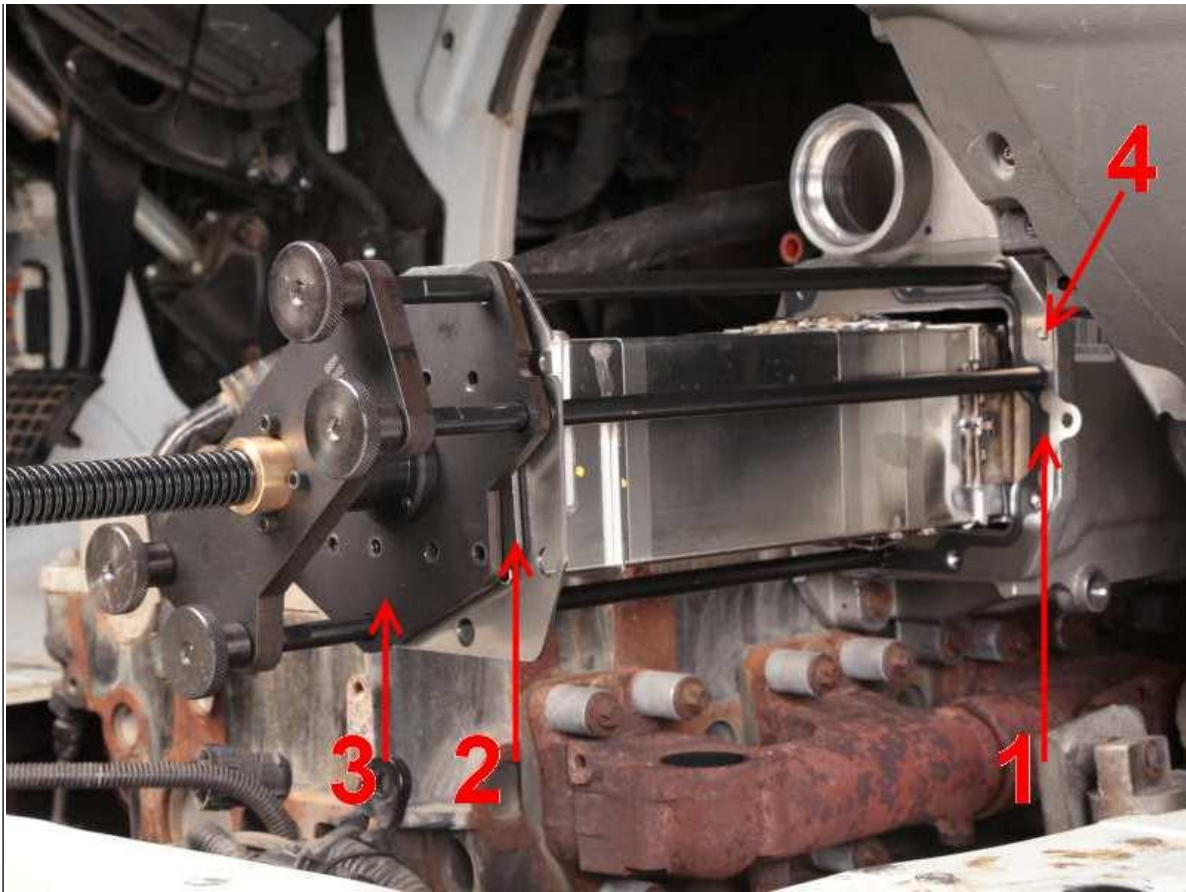

Figure 8: HT Core Installation
4. Install the core to housing gasket (**Figure 8**, Item 1).